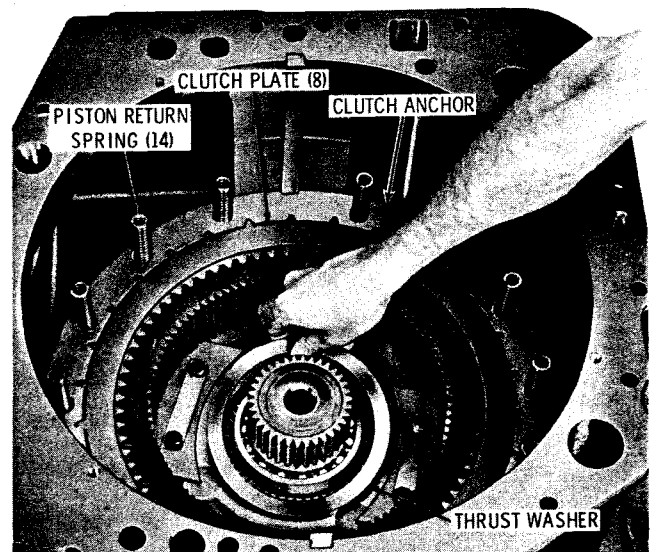

Fig. 5-33. Removing high-range planetary carrier thrust washer
(6) Remove the thrust washer from the intermediate-range planetary carrier assembly (fig. 5-33).
**Note:** The thrust washer may have remained on the high-range planetary carrier assembly as removed in (5), above. If so, remove it.
(7) Remove the 14 clutch piston return springs (fig. 5-33). Remove the clutch anchor and eight clutch plates.